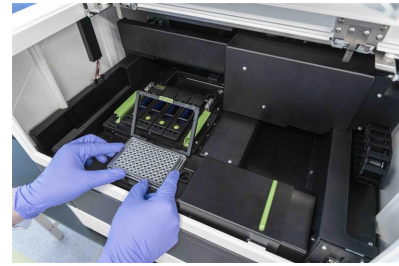

Figure 13: Insert the collection plate onto the plate holder when prompted
2. Insert the collection plate onto the plate holder (see Figure 13).